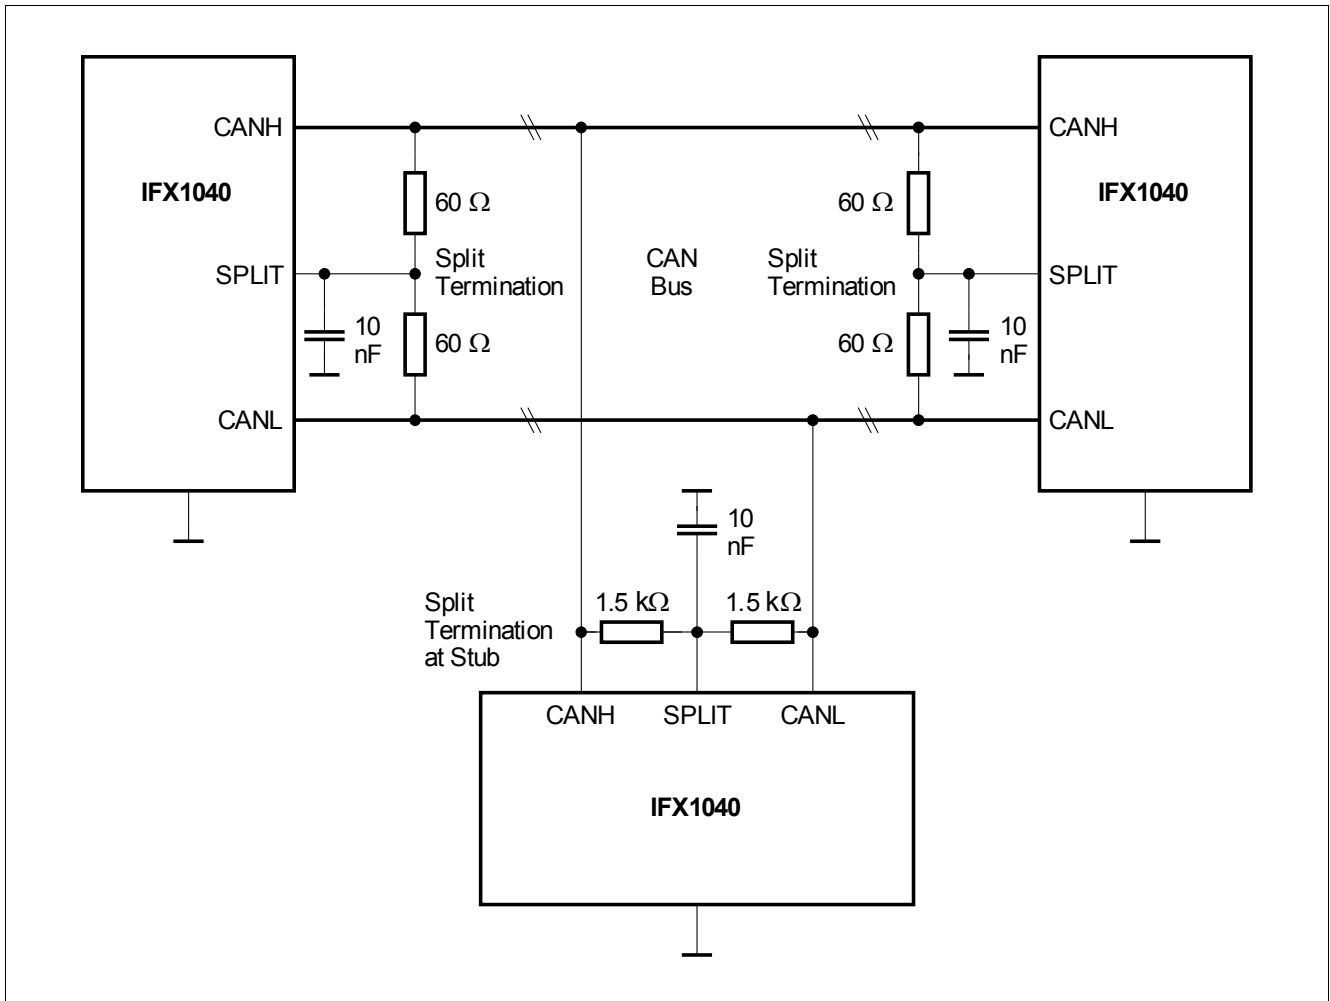

**Figure 6** Wake-up behavior
1) Signal at RxD changes corresponding to the bus signal during stand by mode. See Figure 6
During standby mode, a dominant CAN message on the bus longer than the filtering time  $t > t_{WU1}$ , leads to the activation of the wake-up. The wake-up during standby mode is signaled with the RxD output pin. A dominant signal longer  $t > t_{WU1}$  on the CAN bus switches the RxD level to LOW, with a following recessive signal on the CAN bus longer  $t > t_{WU2}$  the RxD level is switched to high, see **Figure 6**.